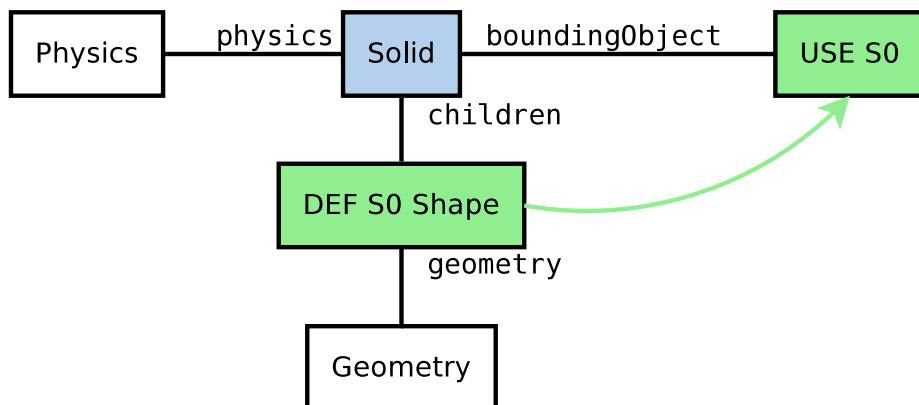

Figure 7.6: DEF-USE mechanism applied on the Shape node of a Solid.
*For convenience, the boundingObject field accepts also the Shape node (rather than the Sphere node directly). It would be also possible to use the same DEF-USE mechanism at the Shape level as shown in figure 7.6. For now the best advantage is to use this Shape also directly for graphical purposes. Later this will turn out to be very useful for some sensors.*